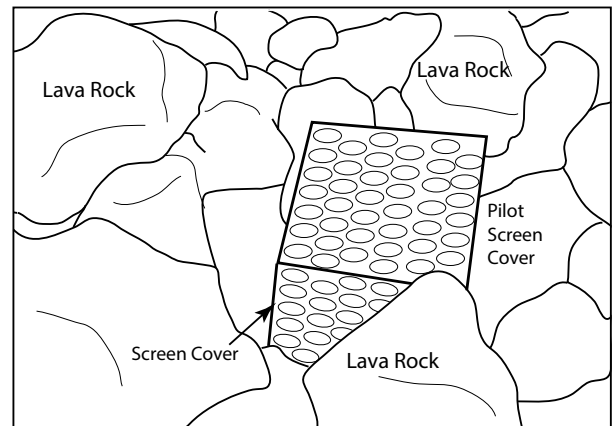

Fig. 10 Media placement around pilot hood.
**IMPORTANT: DO NOT PLACE ROCK OVER TOP OR UNDER THE PILOT SCREEN COVER.** The screen must be free of any debris to ensure proper lighting of burner and good flame sense (See Fig. 10).